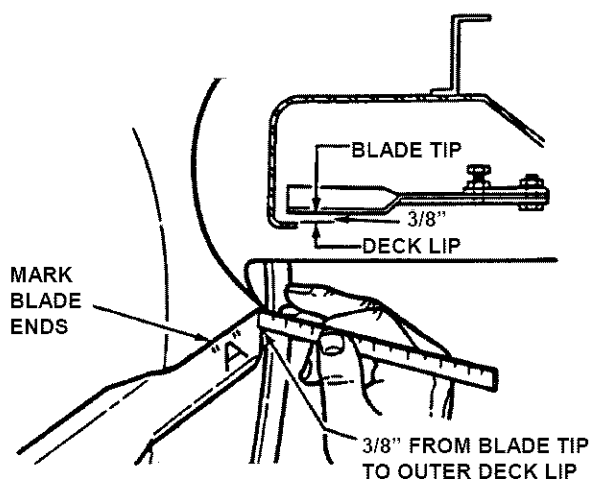

FIGURE 4.5
8. Measure the distance between deck lip and blade tip. NOTE: On 33" decks, the measurement between the blade tip and deck lip should be $\frac{3}{8}$ ". See Figure 4.5.